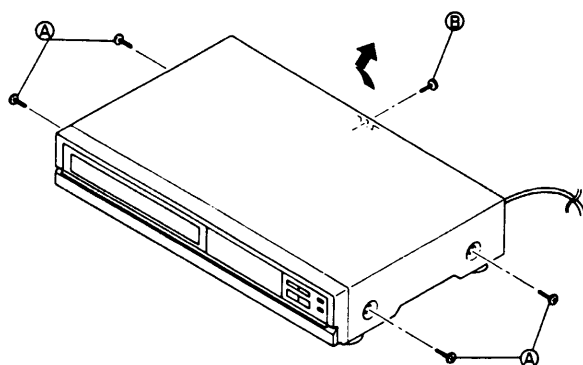

Fig. 1-1-1
1. Refer to Fig. 1-1-1 and set for the EJECT (Stop) mode and disconnect VCR from AC power.
2. Take out 4 screws (A) and 1 screw (B). To remove the top cover, slide it in the direction of the arrow and lift it away.